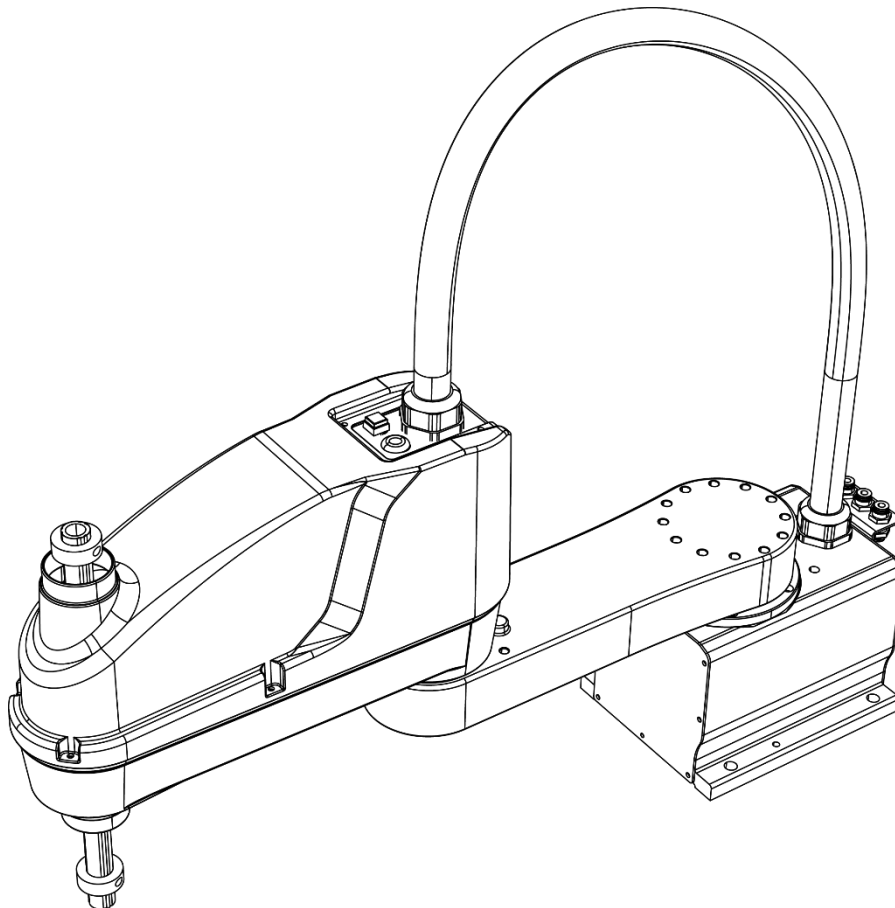

Figure 1.15 Original position
Step 1 Make the robot motor in the disabled status, and put the robot in the original position, as shown in Figure 1.15.